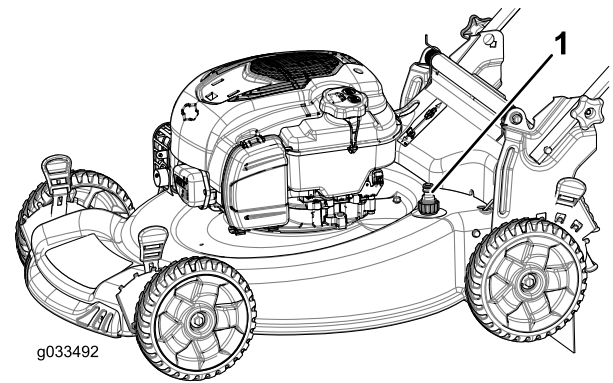

Figure 38
5. Attach a garden hose that is connected to a water supply to the washout port (Figure 38).